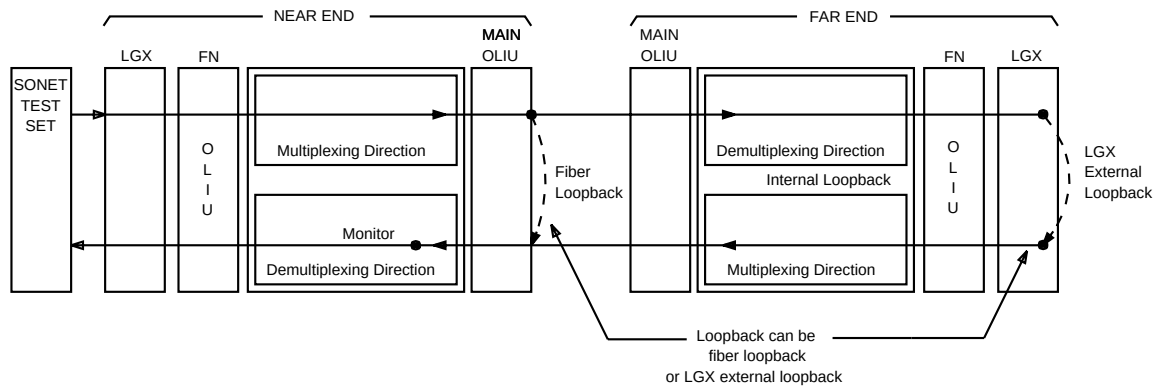

Figure 1. Transmission Test of OC-3c Signal in MUX Direction
This procedure may be used to perform OC-3c transmission tests in the mux (toward the fiber) direction. When this procedure is being used to perform end-to-end OC-3c tests, it is assumed that the complete end-to-end system has already been tested and that only the OC-3c signal is being tested at this time. Transmission tests in the *mux* direction may be local or end-to-end tests (see Figure 1).
2. See Figure 1. If local tests are being performed, the fiber loopback at the near-end **21G/21G-U/21G2-U** or **21D/21D-U OLIU** must be in place. If end-to-end tests are being performed, at the far-end *LGX*[®] cross-connection associated with the DDM-2000 OC-3 Multiplexer being tested, connect a patch cord from the **OUT** jack to the **IN** jack for the OC-3c signal to be tested.